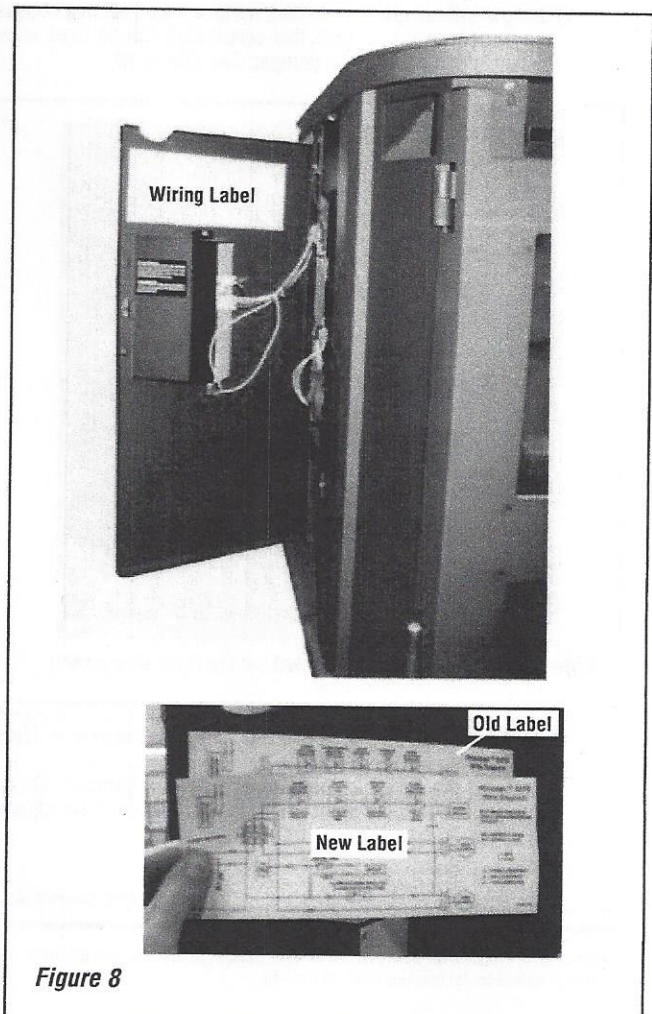

Figure 8
- 1) Locate the existing wiring label located on the left side panel, as shown in **Figure 8**.
- 2) Peel off the backing on the new label provided to expose the adhesive. Carefully adhere the label over the existing wiring label. Smooth out label with hand to ensure there are no bubbles. See **Figure 8**.